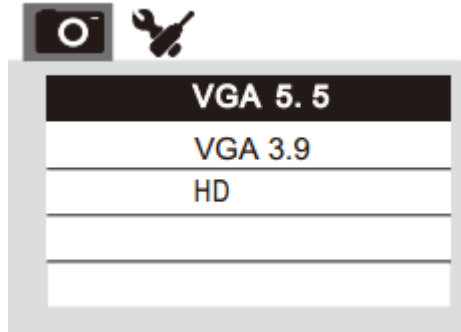

Fig. 7
5. Press and hold the On / off key for two seconds to switch on the device and select the correct camera from the menu. (Fig. 7) Then check the image quality.